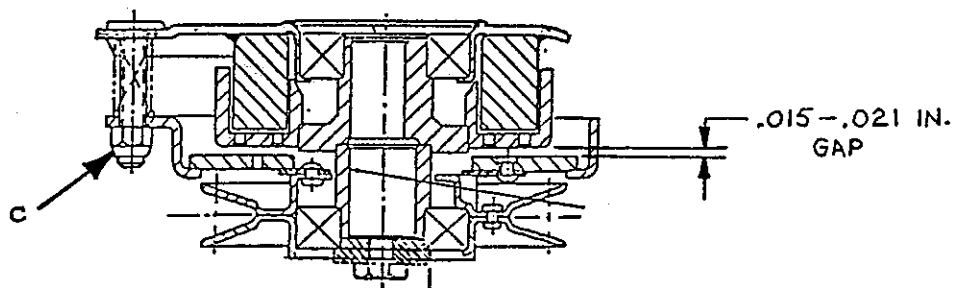

Fig. 10 Electric Clutch Adjustment
- c. Place  $.015 - .021$  inch feeler gauge through each of the three clutch gap holes. If gap exceeds this range, tighten the three adjusting nuts until the proper gap is obtained. See Figure 10.